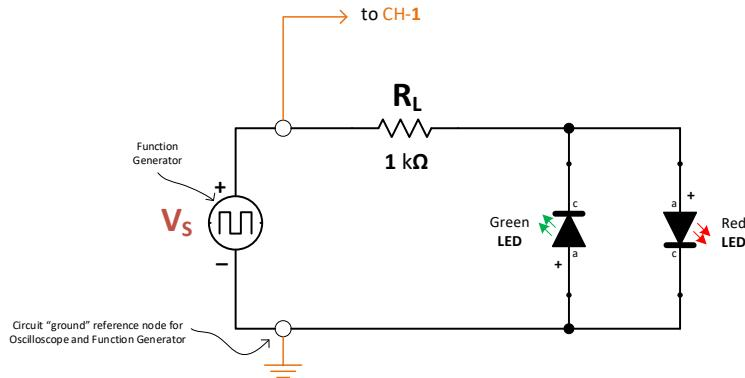

Figure 5.0: Dual “blinking LED” circuit
The purpose of this experiment is to visually observe the concept of **bi-directional** current flow of an AC signal through use of a “blinking” LED circuit, shown in **Figure 5.0**. The effects of “DC-Offset” feature of the Function Generator on a square-wave (digital) waveform will be demonstrated.
1. Select a **1 k Ω** resistor, the Red and Green LEDs from your Kit to construct the circuit in **Figure 5.0** on your breadboard. **Note:** In order to protect the LED from excessive current that can damage it, the current-limiting resistor, R_L of **1 k Ω** is used in series with the LEDs.
3. Connect the Function Generator to the circuit, and also to CH-1 of the Oscilloscope as shown in **Figure 5.0**. Monitor the Oscilloscope to confirm the waveform voltage setting of $\pm 5V$ and the waveform frequency of **1 Hz**.
Table 5.0: Observations of the “Blinking LEDs” of Figure 5.0 circuit.